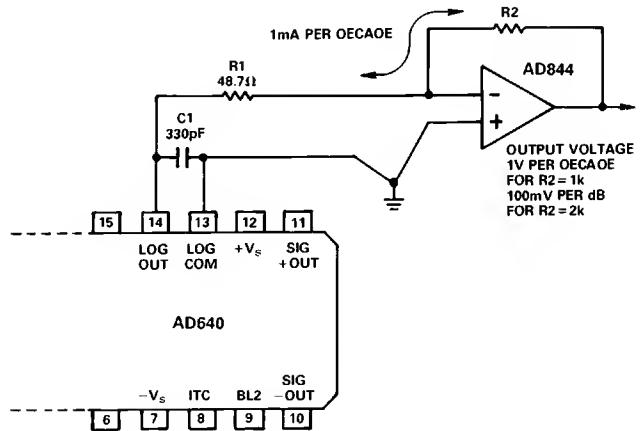
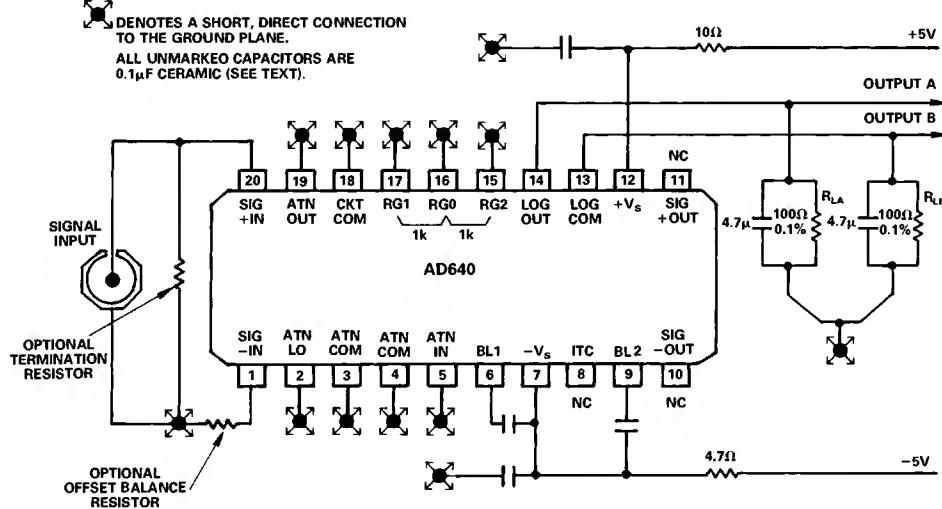
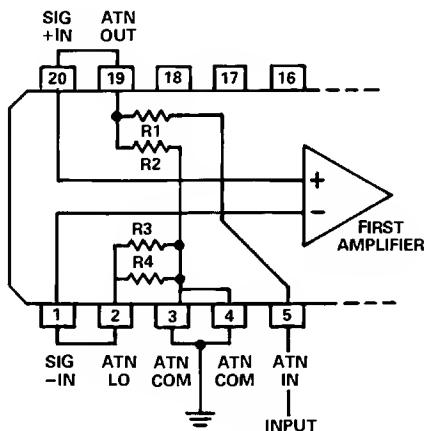
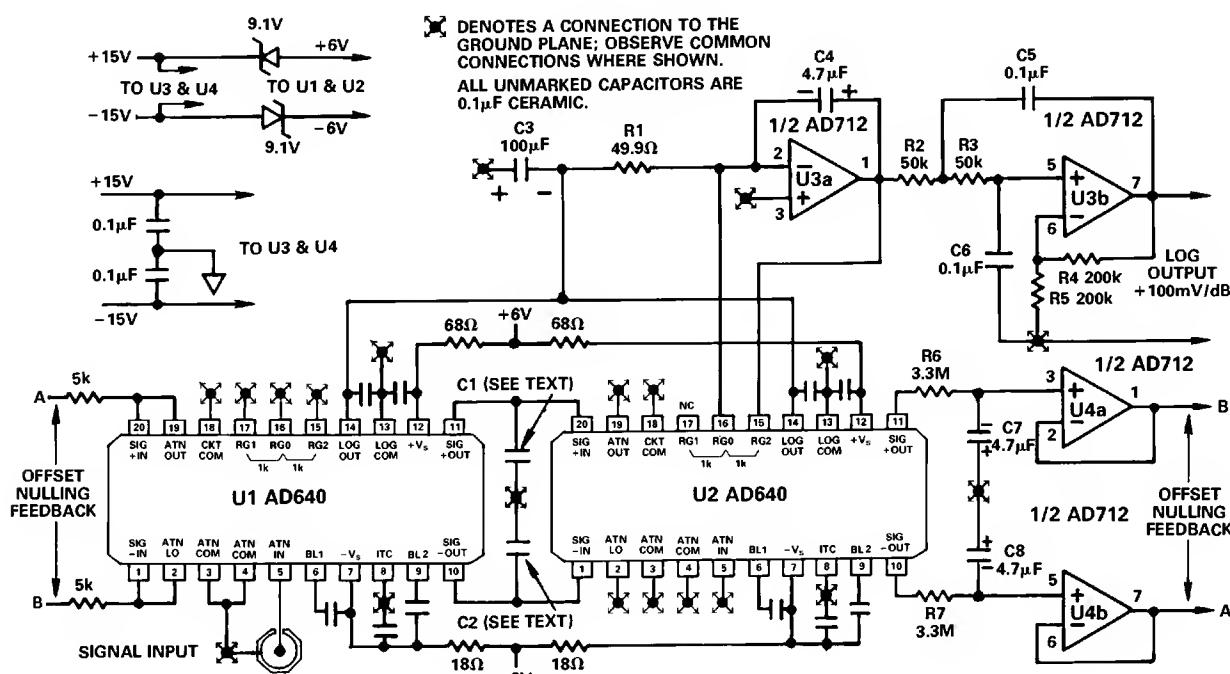

Figure 21. Using an External Op Amp to Convert the AD640 Output Current to a Buffered Voltage Output
Figure 24. Connections for a Single AD640 to Verify Basic Performance
Figure 26. Details of the Input Attenuator
Figure 32. Complete 95 dB Dynamic Range Converter
$I_Y$  the *Slope Current*, is 1 mA. The current output can readily be converted to a voltage with a slope of 1 V/decade, for example, using one of the 1 kΩ resistors provided for this purpose, in conjunction with an op amp, as shown in Figure 21.
Figure 24 shows the basic connections for a single device, using 100 Ω load resistors. Output A is a negative going voltage with a slope of -100 mV per decade; output B is positive going with a slope of +100 mV per decade. For applications where absolute calibration of the intercept is essential, the main output (from LOG OUT, Pin 14) should be used; the LOG COM output can then be grounded. To evaluate the demodulation response, a simple low-pass output filter having a time constant of roughly 500 μs (3 dB corner of 320 Hz) is provided by a 4.7 μF (-20% +80%) ceramic capacitor (Erie type RPE117-Z5U-475-K50V) placed across the load. A DVM may be used to measure the averaged output in verification tests. The voltage compliance at Pins 13 and 14 extends from 0.3 V below ground up to 1 V below +VS. Since the current into Pin 14 is from -0.2 mA at zero signal to +2.3 mA when fully limited (dc input of >300 mV) the output never drops below -230 mV. On the other hand, the current out of Pin 13 ranges from 0.2 mA to +2.3 mA, and if desired, a load resistor of up to 2 kΩ can be used on this output; the slope would then be 2 V per decade. Use of the LOG COM output in this way provides a numerically correct decibel reading on a DVM (+100 mV = +1.00 dB).
The compliance at LOG OUT limits the available output voltage swing. The output of the AD640 may be converted to a larger, buffered output voltage by the addition of an operational amplifier connected as a current-to-voltage (transresistance) stage, as shown in Figure 21. Using a 2  $\text{k}\Omega$  feedback resistor ( $R_2$ ) the 50  $\mu\text{A}/\text{dB}$  output at LOG OUT is converted to a voltage having a slope of +100 mV/ $\text{dB}$ , that is, 2 V per decade. This output ranges from roughly -0.4 V for zero signal inputs to the AD640, crosses zero at a dc input of precisely +1 mV (or -1 mV) and is +4 V for a dc input of 100 mV. A passive prefilter, formed by  $R_1$  and  $C_1$ , minimizes the high frequency energy conveyed to the op amp. The corner frequency is here shown as 10 MHz. The AD844 is recommended for this application because of its excellent performance in transresistance modes. Its bandwidth of 35 MHz (with the 2  $\text{k}\Omega$  feedback resistor) will exceed the baseband response of the system in most applications. For lower bandwidth applications other op amps and multipole active filters may be substituted (see, for example, Figure 32 in the APPLICATIONS section).
If absolute calibration is essential, or some other value of slope or intercept is required, there will usually be some point in the user's system at which an adjustment may be easily introduced. For example, the 5% slope deficit at 30 MHz (see Figure 12) may be restored by a 5% increase in the value of the load resistor in the passive loading scheme shown in Figure 24, or by inserting a trim potentiometer of 100  $\Omega$  in series with the feedback resistor in the scheme shown in Figure 21. The intercept can be adjusted by adding or subtracting a small current to the output. Since the slope current is 1 mA/decade, a 50  $\mu\text{A}$  increment will move the intercept by 1 dB. Note that any error in this current will invalidate the calibration of the AD640. For example, if one of the 5 V supplies were used with a resistor to generate the current to reposition the intercept by 20 dB, a  $\pm 10\%$  variation in this supply will cause a  $\pm 2$  dB error in the absolute calibration. Of course, slope calibration is unaffected.
In applications where the signal amplitude is sufficient, the on-chip attenuator should be used because it provides a temperature-independent dynamic range (compare Figures 18 and 19). Figure 26 shows this attenuator in more detail. R1 is a thin-film resistor of nominally  $270\ \Omega$  and low temperature coefficient (TC). It is trimmed to calibrate the intercept to 10 mV dc (or  $-24$  dBm for sinusoidal inputs), that is, to an attenuation of nominally 20 dBs at  $27^\circ\text{C}$ . R2 has a nominal value of  $30\ \Omega$  and has a high positive TC, such that the overall attenuation factor is  $0.33\%/\text{ }^\circ\text{C}$  at  $27^\circ\text{C}$ . This results in a transmission factor that is proportional to absolute temperature, or PTAT. (See Intercept Stabilization for further explanation.) To improve the accuracy of the attenuator, the ATN COM nodes are bonded to both Pin 3 and Pin 4. These should be connected directly to the "SIGNAL LOW" of the source (for example, to the grounded side of the signal connector, as shown in Figure 32) not to an arbitrary point on the ground plane.
A low-pass filter between U1 and U2 can limit the noise bandwidth and extend the dynamic range. The simplest way to do this is by the addition of a pair of grounded capacitors at the signal outputs of U1 (shown as C1 and C2 in Figure 32). The  $-3$  dB frequency of the filter must be above the highest frequency to be handled by the converter; if not, nonlinearity in the transfer function will occur. This can be seen intuitively by noting that the system would then contract to a single AD640 at very high frequencies (when U2 has very little input). At intermediate frequencies, U2 will contribute less to the output than would be the case if there were no interstage attenuation, resulting in a kink in the transfer function.
To increase the dynamic range it is necessary to reduce the bandwidth by the inclusion of a low-pass filter at the signal interface between U1 and U2 (Figure 32). To provide operation down to low frequencies, dc coupling is used at the interface between AD640s and the input offset is nulled by a feedback circuit.